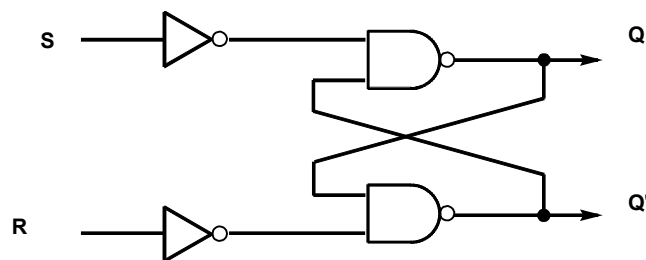

Figure 2
1. Connect the circuit shown in Figure 2. Use DS-1 for S, DS-2 for R, and DI-1 for Q, and DI-2 for Q'. Notice that this implementation is different from the previous one in that S feeds into the gate whose output is Q and R feeds into the gate whose output is Q'.
2. Enable=1 enables the S and R inputs. To see what this means, set enable high and verify that the circuit works exactly like the circuit of Figure 2.